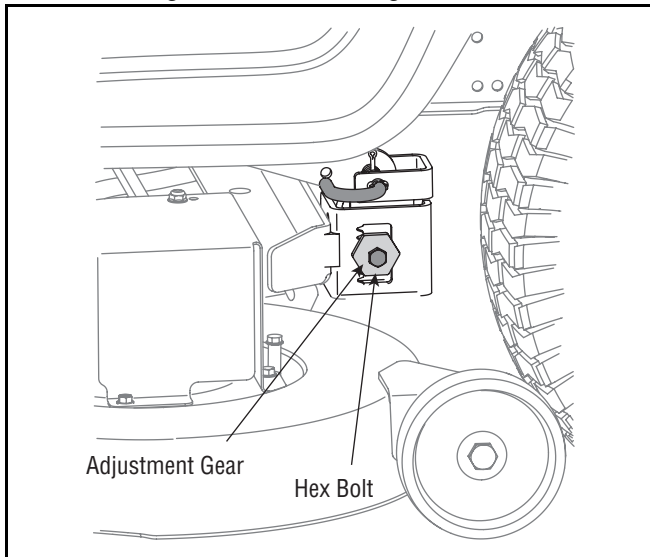

Figure 12
- Loosen, but do NOT remove, the hex bolt on the left deck hanger bracket. See Figure 12.
- Balance the deck by using a wrench to turn the adjustment gear (See Figure 12) up or down.